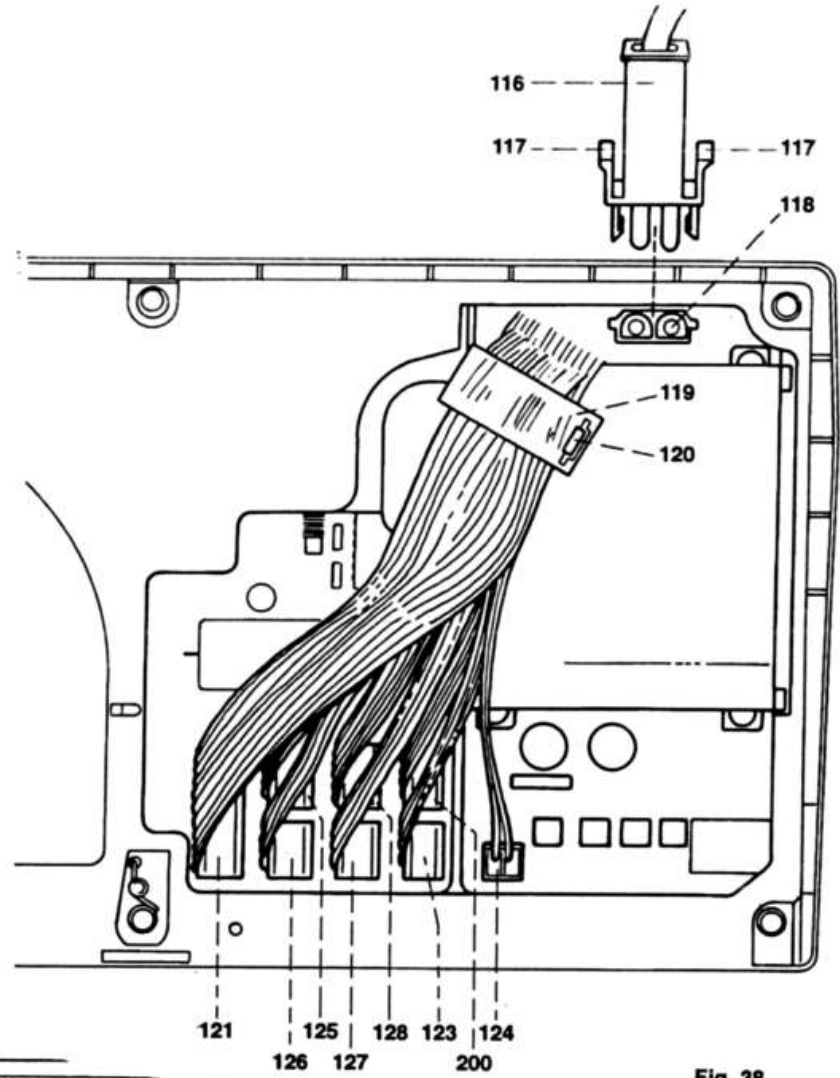

Fig. 38
- Disconnect the plugs of the eight flat cables from the circuit board (fig. 38).